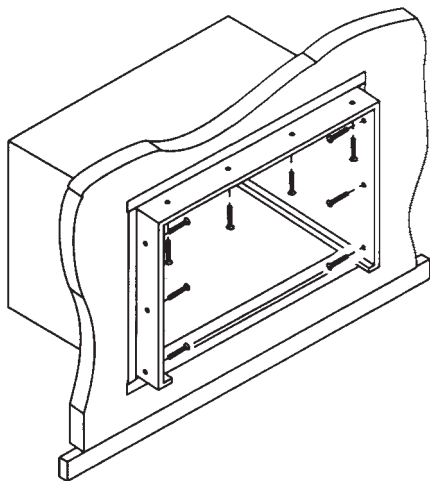

FIGURE 24 — SECURING CABINET TO FRAME
15. There are screw holes in the cabinet (4 each side, 4 top) which are used to secure the cabinet to the wooden frame. With the cabinet in its final position, drill holes in the wooden frame using the screw holes in the cabinet as a guide. After the holes have been drilled, secure the cabinet to the wooden frame using field-supplied screws. See Fig. 24.